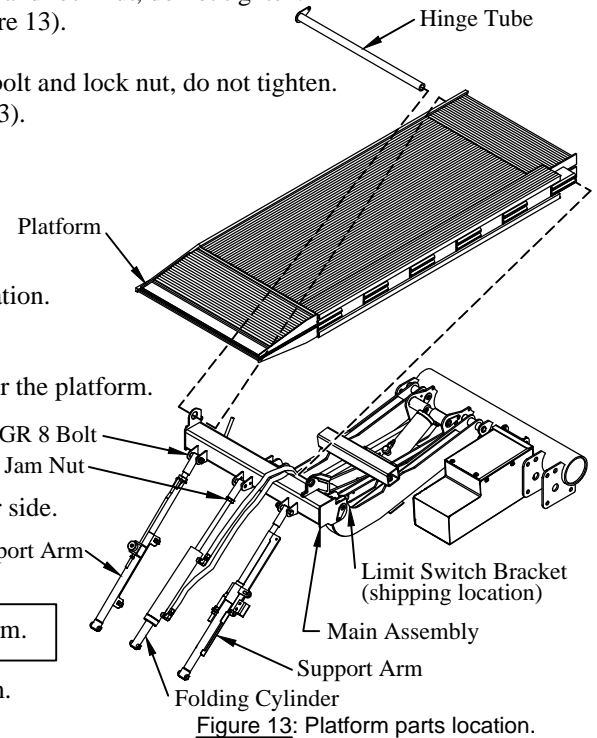

Figure 13: Platform parts location.
The threaded end of the support arm goes toward the main assembly (Figure 13).
The threaded end of the cylinder goes toward the main assembly (Figure 13).
4. **Install** the limit switch bracket on the passenger side support arm with two (2) #12 self-threading screws. See Figure 13 for bracket shipping location.